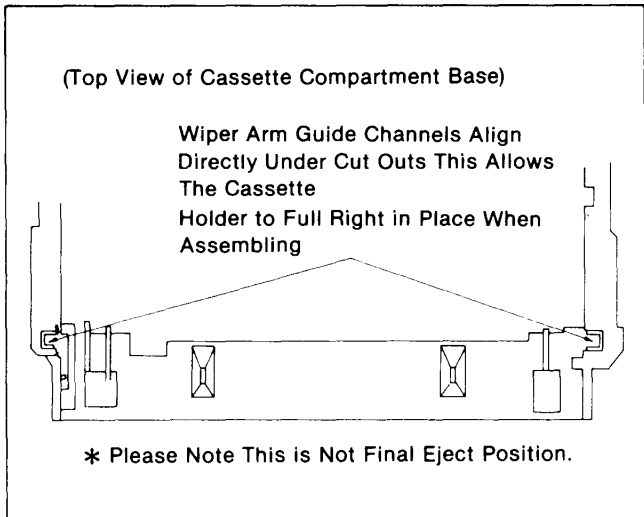

Figure M67
7. Stop the manual eject procedure just before completion, so that the Sub Wiper Arms straight up. This position is also characterized by the channel guides (In the Wiper Arms) being directly under the cut outs on the top of the Cassette Compartment base (Figure M67).